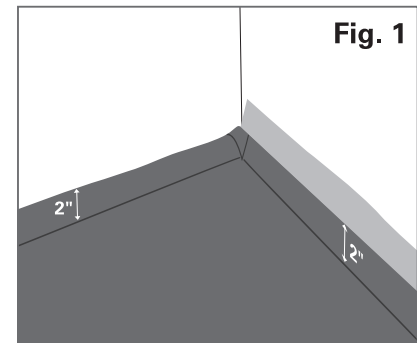

Fig. 1
2. Start in a corner of the room by rolling out the underlayment with the overlap flap and adhesive strip facing up. Run the underlayment parallel to the wall and in the opposite direction that you plan to install the flooring planks. Cut the underlayment with a utility knife $\frac{1}{2}$ " to $\frac{3}{4}$ " away from the wall. Put the overlap flap side of the underlayment against the wall, running it 2 inches up both the starting wall and both end walls (see Fig. 1). This 2 inch perimeter running up the wall provides a moisture-proof enclosure for the flooring.